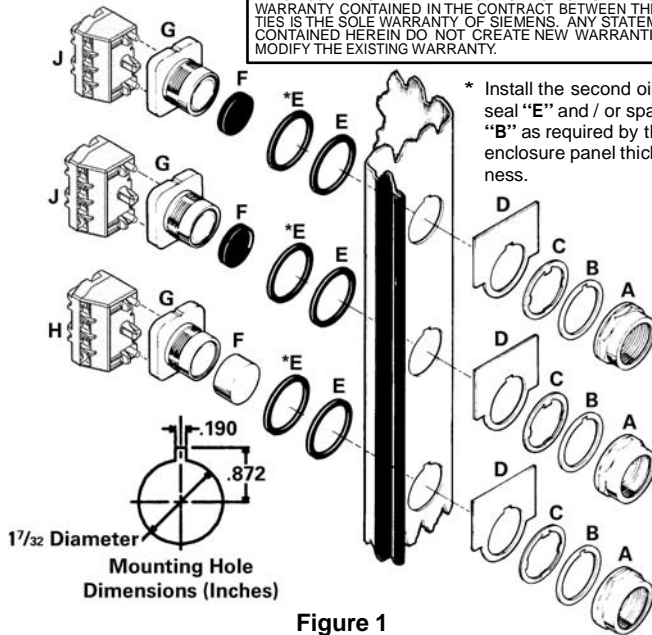

Figure 1
The flange mounted operators for Classes 25, 26, and 32 control units generally accommodate a maximum of two contact blocks each if a transformer is installed in the lower right portion of the enclosure. These contact blocks should be attached to the left side of the operator base as indicated in Figure 1, before mounting the push button operator.
- c. Mounting hole dimensions are shown in Figure 1. The operators require mounting on 2¹/₄ inch minimum centers.
2. Mount each operator base **H** in enclosure as shown in Figure 1, and tighten to 15 ft.lbs.